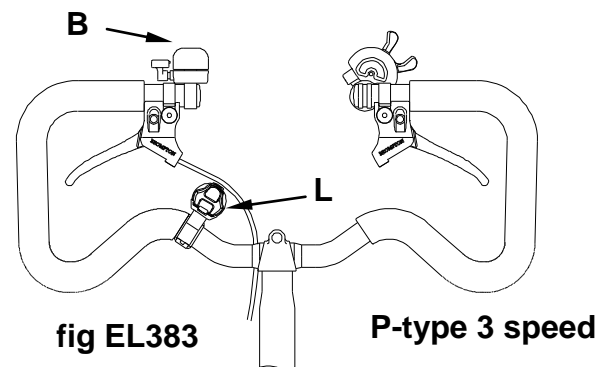

fig EL383
**P-type 3 speed (fig EL383)**, if no bell B is fitted use the space at the end of the handlebar on the left.